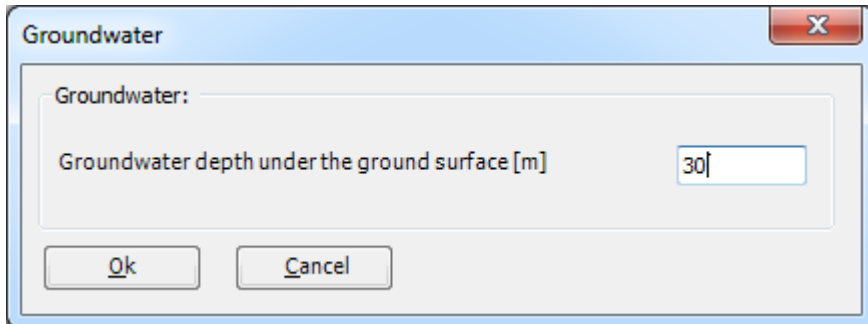

Figure 11.25 "Groundwater depth under the ground surface" edit box
- Double-click on the groundwater level. The corresponding edit box appears allowing you to modify the groundwater depth under the ground surface, Figure 11.25. To neglect the uplift pressure on the raft, groundwater level is chosen at anywhere under the raft basement